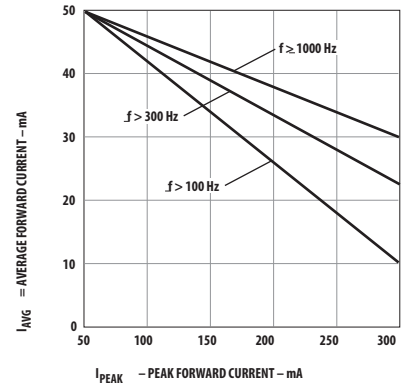

Figure 7. Maximum average current vs. peak forward current.
2. Refer to Figure 7 to establish pulsed operating conditions.